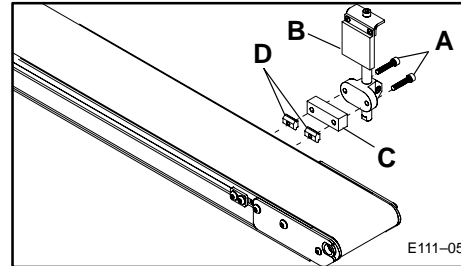

Figure 5: Reflector Attachment Detail
- c. Insert another two (2) Single Drop-in T-bars into the slot on other side of the conveyor.
- d. Refer to Figure 5 and attach Reflector with Mounting Bracket and Spacer to Single Drop-in T-bars using two M6 x 30 mm Socket Head Cap Screws. Tighten Screws with 5 mm Hex Key Wrench provided.